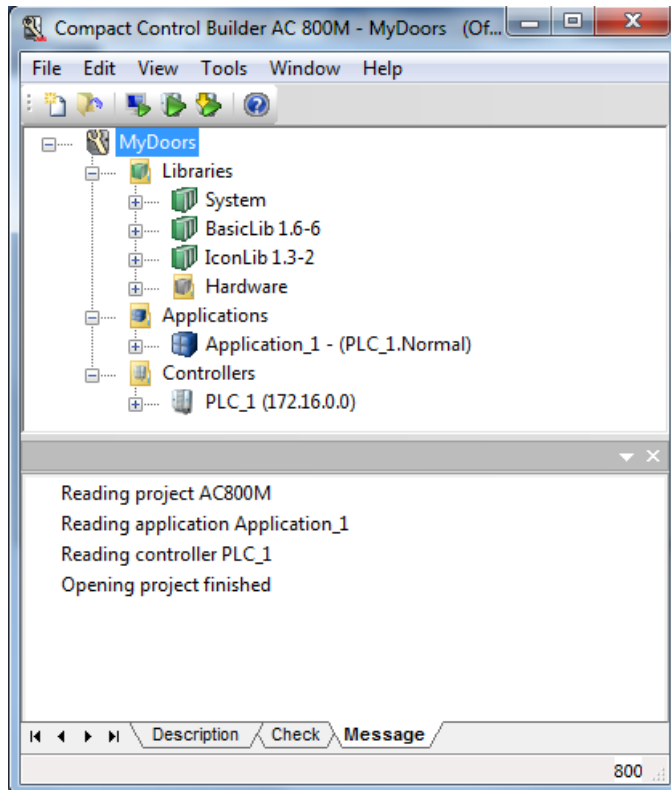

Figure 21. MyDoors project opened in Project Explorer
3. Click **OK**. Project Explorer creates and opens MyDoors project, see Figure 21.